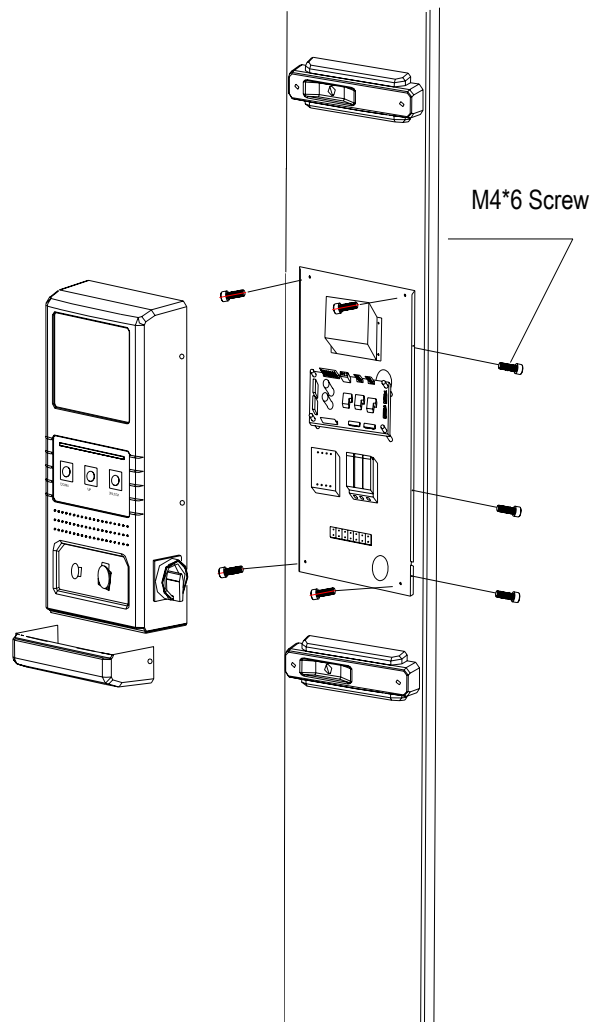

Fig 12
- Use M5x12 Screw and washer to fix the electric control box casing onto the column.(Fig.12)
- Connect the electrical wiring as shown in Fig. 12.